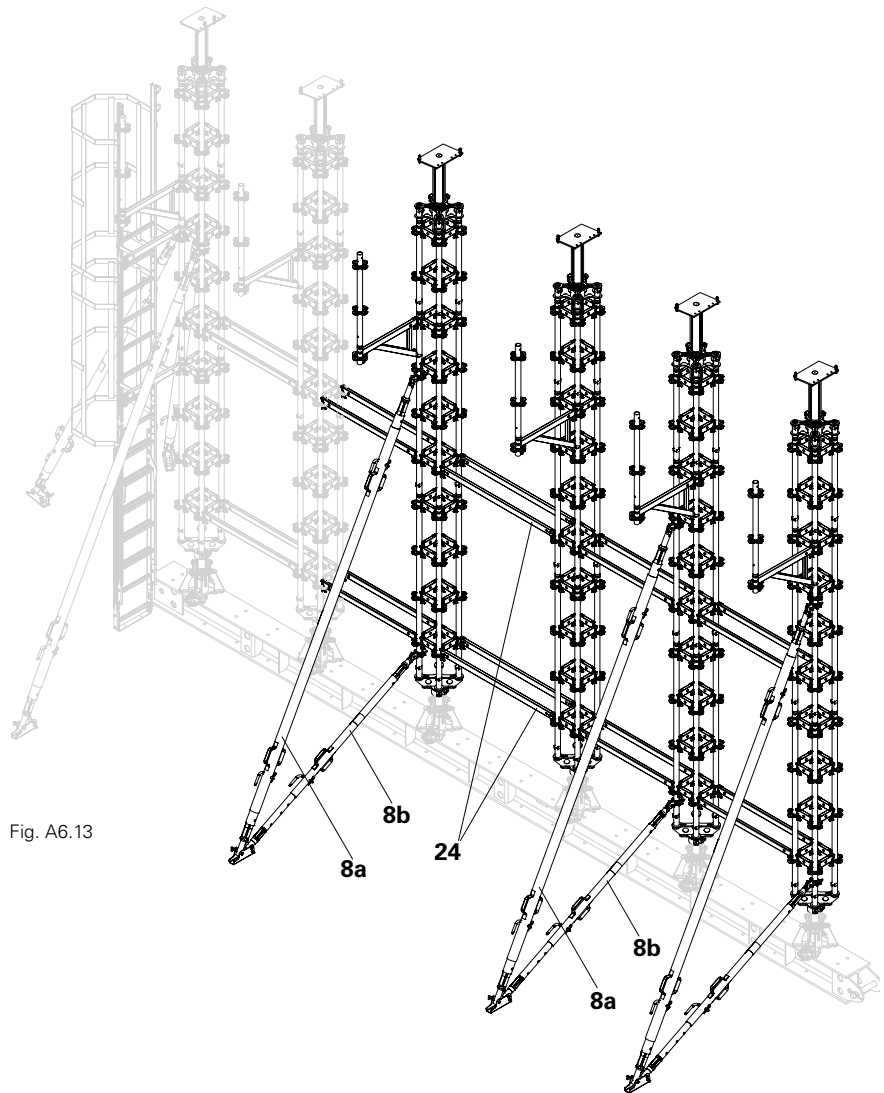

Fig. A6.13
3. Erect the third Heavy-Duty Prop HD. A Push-Pull Prop RS (8a) is attached to this and every second Heavy-Duty Prop HD (after the third) (for attachment point see "First Prop"). If the Lowering Jacks of these Heavy-Duty Props HD are only attached to the Base Beam HDT with two girder clamps, a second Push-Pull Prop RS (8b) must be mounted below the lower ledger level! See Section A3 "Bracing with Push-Pull Props". (Fig. A6.13)
4. Repeat steps 1. to 3. until the desired number of Heavy-Duty Props HD are installed on the main beam frame. (Fig. A6.13)